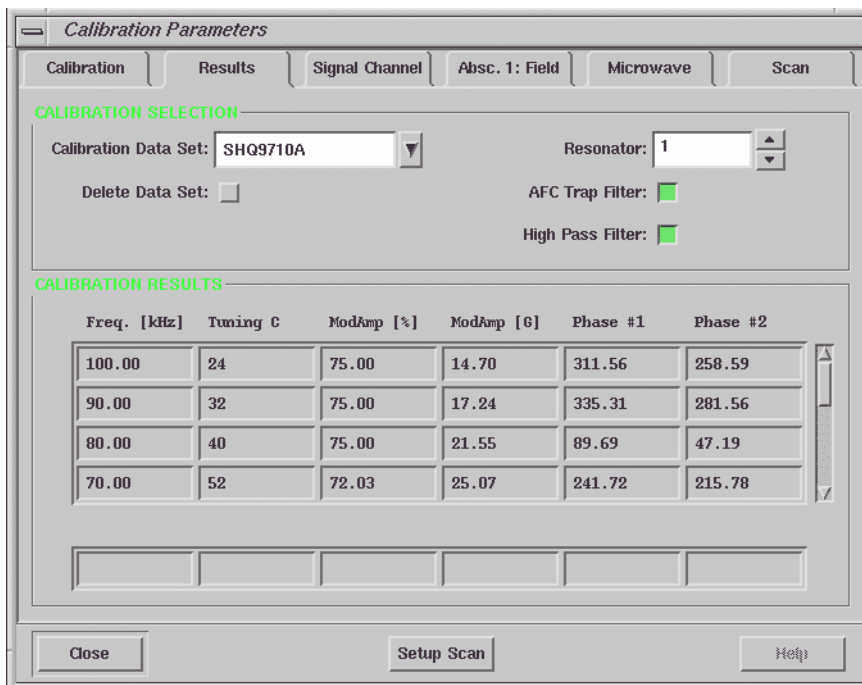

Figure 2-14 The calibration results.
20. **Observe the calibration results.** The Results folder consists of a table of parameter values and settings for each modulation frequency. The first column is the modulation frequency. For modulation frequencies greater than or equal to 50 kHz, the optimal tuning capacitor value is listed in the second column. The third column contains the value of Mod Amp [% max]. Mod Amp [G] in the fourth column is the measured maximum modulation amplitude when the corresponding Mod Amp [% max] is used. Phase #1 and Phase #2, in columns five and six respectively, are the phases at which the first and second harmonic signals are nulled. (See Figure 2-14.)
21. **Check the Mod. Amp [G] at 100 kHz.** The calibration routine performs its task sequentially, starting with the highest modulation frequency and continuing for each selected modulation frequency. As each parameter is determined, it is displayed in the table. (See Figure 2-14.) Wait until the 100 kHz calibration is completed. Click the **Pause** button of the **Acquisition Control** buttons. Note the value in the fourth column of the table, **Mod Amp [G]**. Compare the **Mod Amp [G]** at 100 kHz with the values listed for your cavity in Table 2-1. If the value obtained by the calibration routine is slightly less than or approximately equal to the value listed in Table 2-1, allow the calibration routine to continue its task by clicking the **Pause** button again and proceed to Step 23. If the value exceeds the values listed in Table 2-1, stop the calibration routine by clicking the **Run/Abort** button in the **Acquisition Control** buttons. Values that are too high can allow excessive current to flow through the modulation coils of the cavity at the maximum modulation amplitude, resulting in damaged modulation coils.